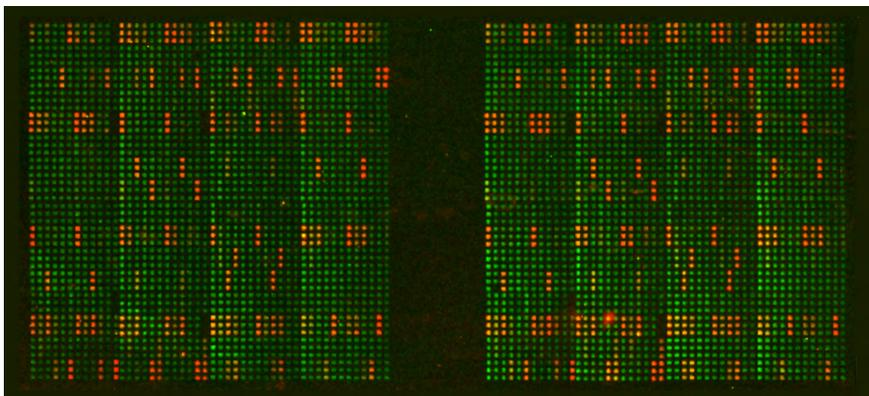

Figure 5. EpiTitan™ Histone Peptide Array Data.
2. Copy the array grid (just the grid from with the peptide numbers, not the array image under it) from the "EpiTitan™ Array Grid v3.doc" file from the website and paste it as a picture on the same slide. See Figure 5 for an example of this.